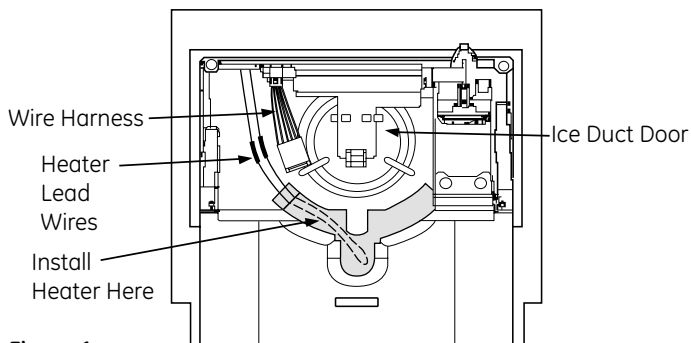

Figure 1
- 2. The heater** will be applied to the recessed area below the ice duct door. **See Figure 1.** Clean this area as thoroughly as possible.
- 3. Peel the paper backing off** of the heater and apply it in the recessed area below the ice duct door. **See Figure 1.** Press firmly over the entire surface to ensure adequate adhesion, forming it around the dispenser tube as necessary.
- 4. Route the heater lead wires** to the dispenser housing to the left of the ice duct door, as shown in **Figure 1**, to prevent the wires from interfering with the duct door.